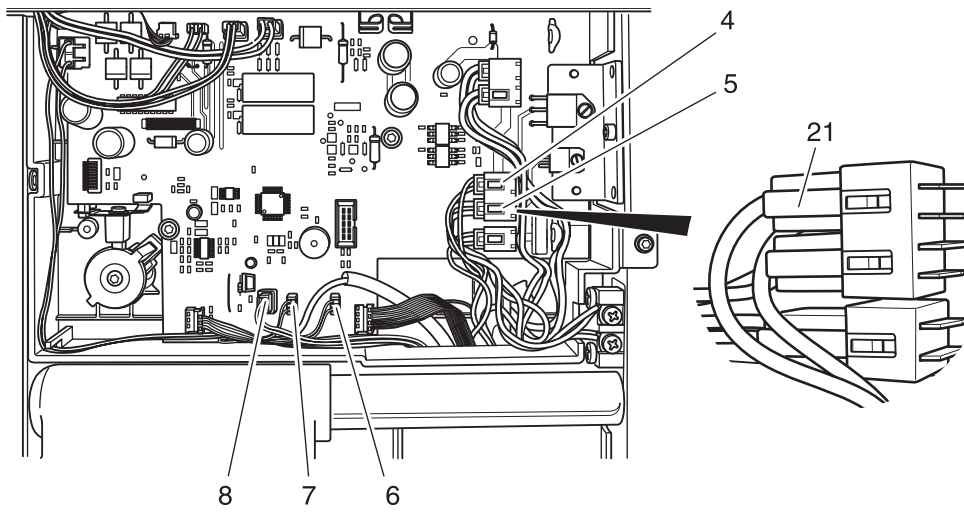

Fig. 7b
- Disconnect plugs 6 to 8 (fig. 7b).